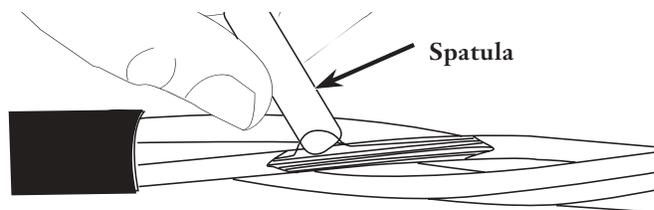

Figure 10
- Step 1** Insert the spatula into the buffer tube opening and gently pull up the fiber(s) to be accessed (Figure 10).